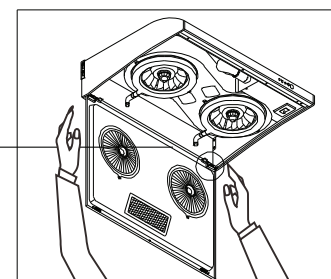

Fig. 4-5
- c. If you need to take apart the bottom plate completely, hold its right side and pull to left side with the puller, then remove to right side. (fig 4-5/4-6/4-7)